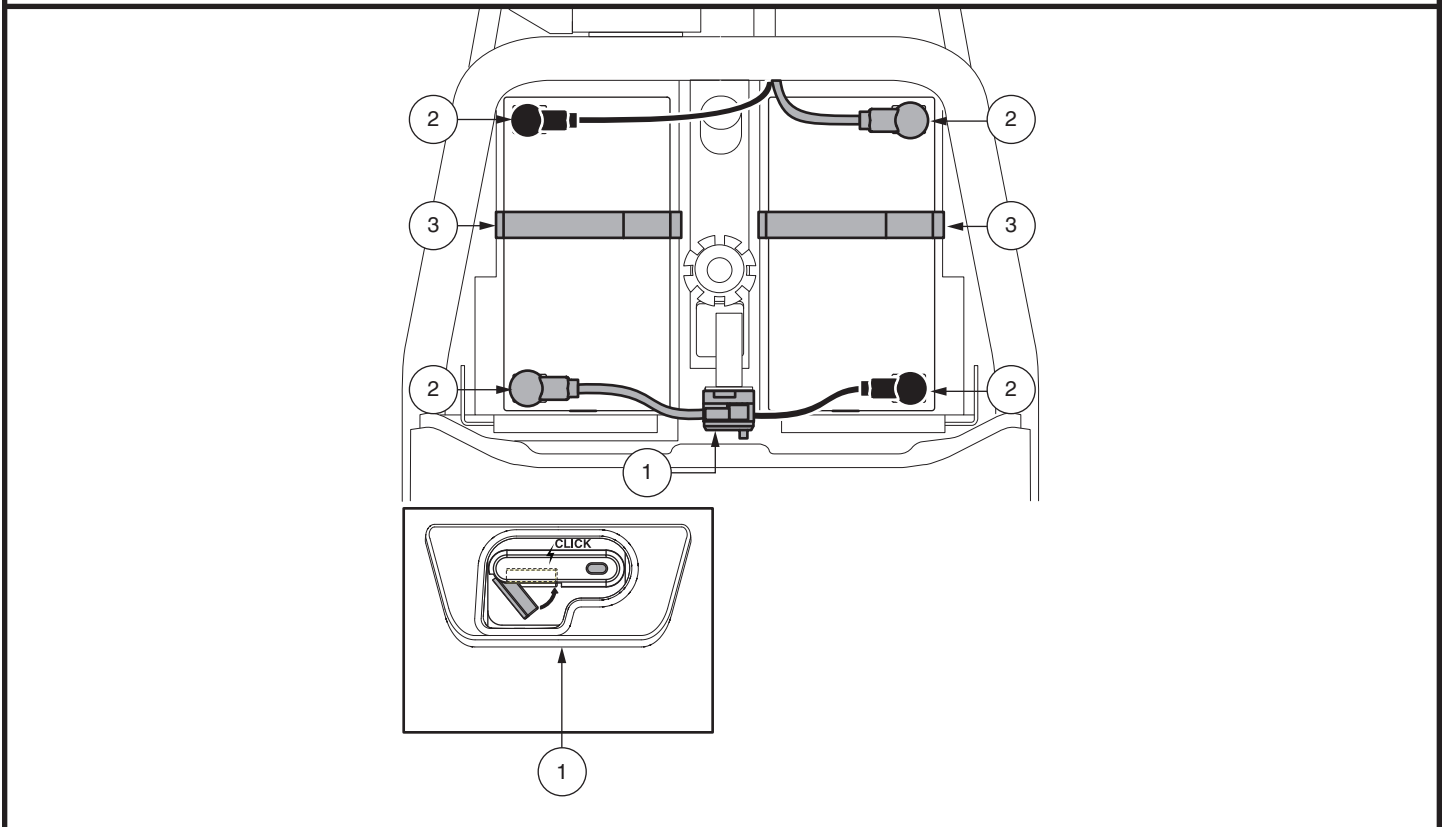

Figure 13. Battery Removal/Installation Terminals and Connections
**NOTE:** Use battery straps to secure batteries in the battery wells. Please refer to figures 13 and 16 for battery strap installation procedures.